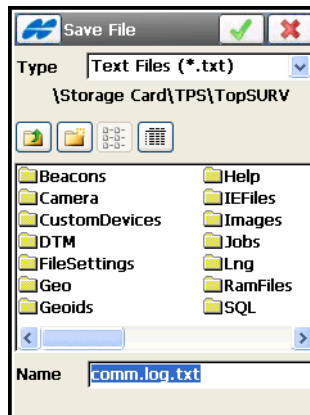

Figure 1-14. Save File
- *Log to file* – check mark this box to save the data to a file. The **Save File** screen displays (Figure 1-14). Assign a name and select a desired directory in which to save the file on the controller. By default, the *comm.log.txt* file will be saved in the *TopSURV* folder.